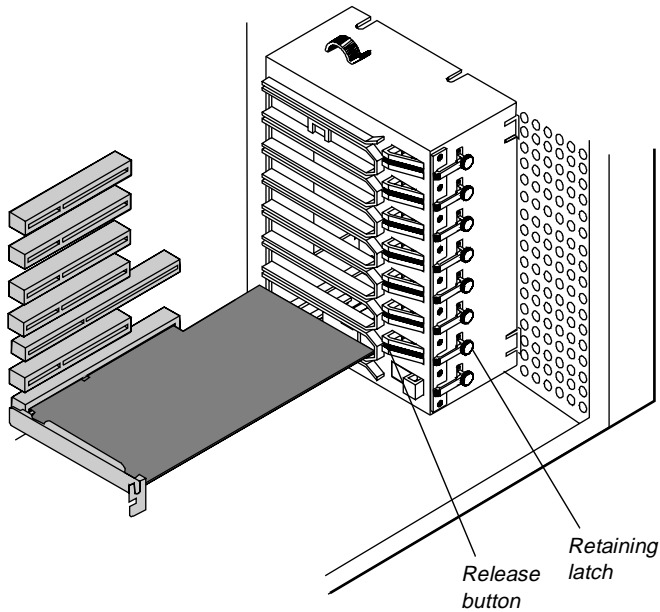

Figure 36: Pressing the Retaining Latch
5. For full-length cards, press the retaining latch on the card guide in, until it clicks into the retracted position (see Figure 36).